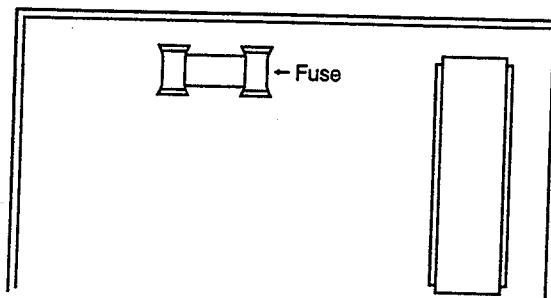

Fig. 3
4. Remove the fuse from the clip on the end of the PCB. (See Fig. 3).